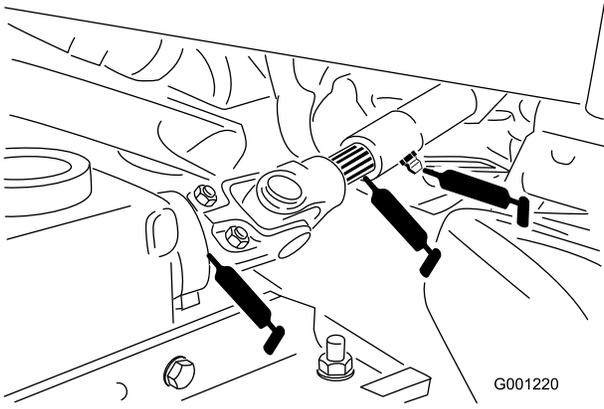

Figure 36
- PTO universal shaft (Figure 36)